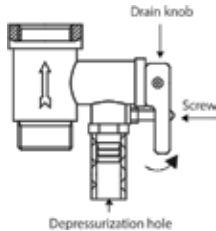

Fig. 8
6. To drain water from the internal tank properly, water can be drained through a composite relief valve (Fig. 8) (unscrew the composite relief valve drain knob screw and set the drain knob to the upper position, at that hot water tap must be open, and cold water supply valve must be closed).